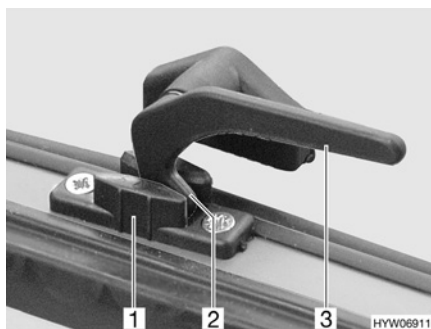

Fig. 31 Catch lever in the "continuous ventilation" position
- "Continuous ventilation" (Fig. 31)
- Turn the catch lever (Fig. 31,3) a quarter turn towards the centre of the window.
- Return the catch lever to its initial position. The locking catch (Fig. 31,2) has to be moved into the recess of window catch (Fig. 31,1).